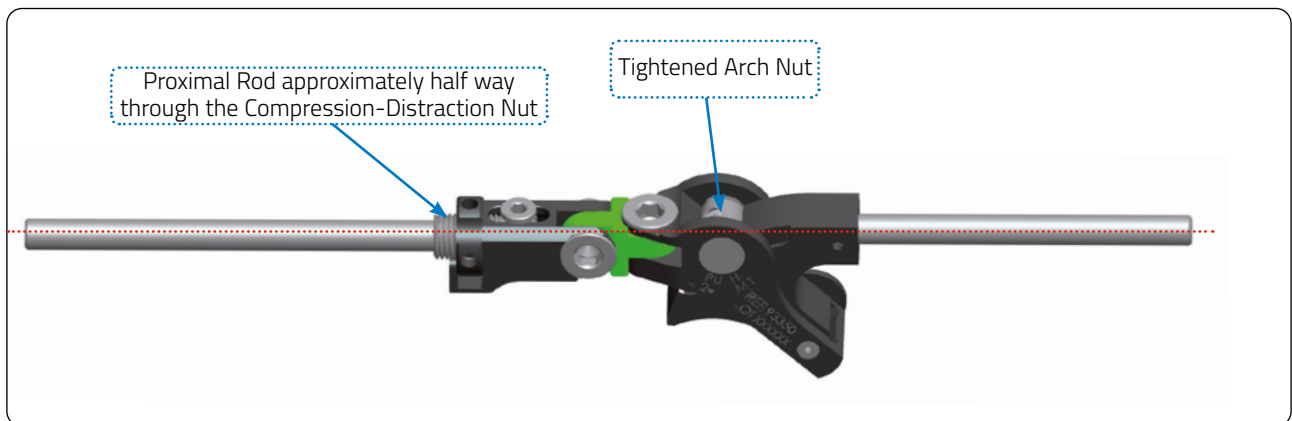

Fig. 10
- Set up the wrist module in neutral position with the two rods longitudinally aligned and tighten the Arch Nut with the Allen Wrench (**Fig. 10**)